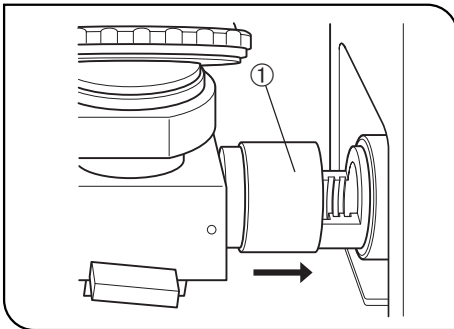

Fig. 20
(Figs. 20 to 23)
★ After mounting the filter or when not using the filter, slide the light shielding sleeve ① closed to prevent light from leaking from the filter holder. (Fig. 20)